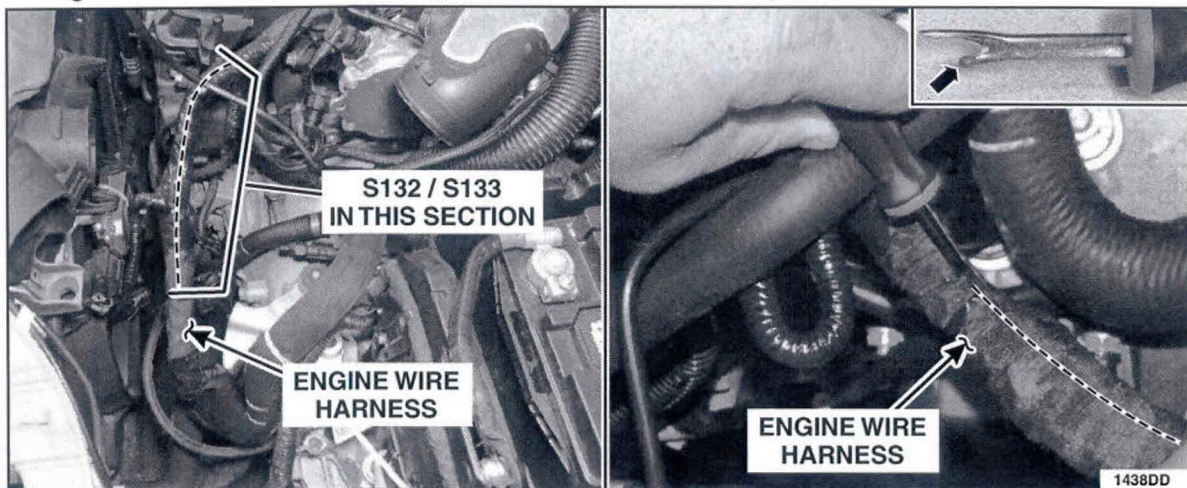

FIGURE 5
8. Pull the engine wire harness upward to provide better access for the repair. Locate the section of engine wire harness that contains splice S132 and S133. See Figure 5.
9. Using a commercially available sheathing ripper such as Snap-on® SGTT4A or equivalent, carefully strip the wire harness tape from the section of wire harness that contain splice S132 and S133. See Figure 5.